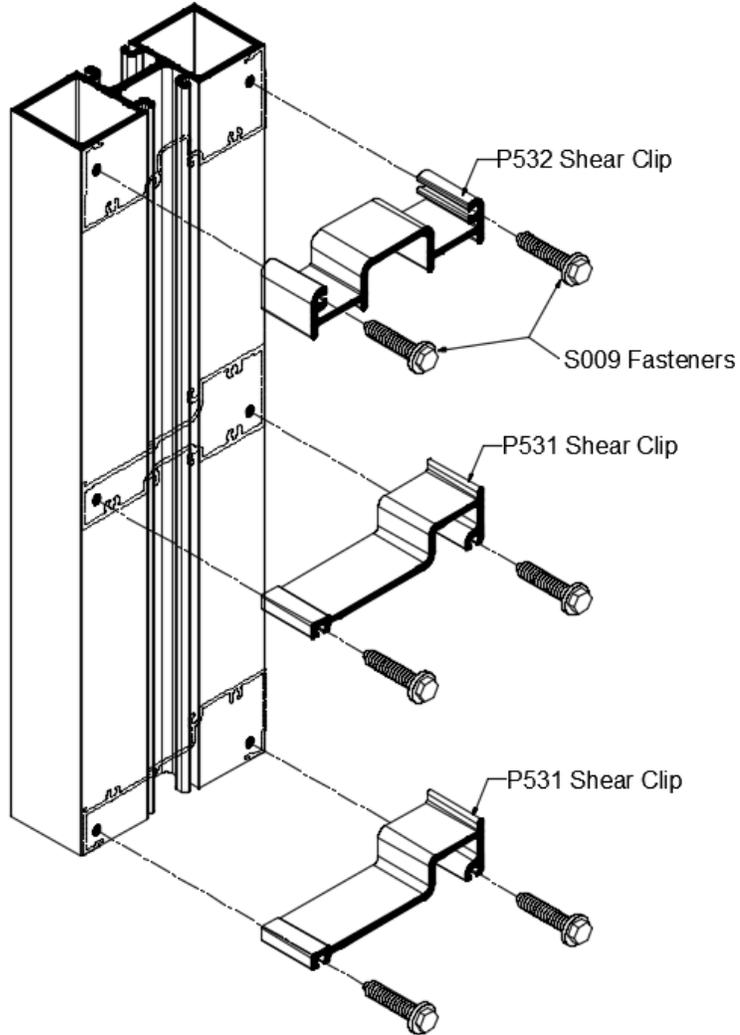

Fig. 28.1
A. Attach frame clips to verticals with S009 fasteners as shown in **Fig. 28.1**.